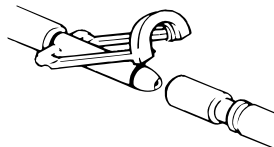

Figure 1-21: Clik-Tite open
- a. If you have Colder style connector hoses, attach the service tool adapter hose (8001-999-016). Make sure the **Clik-Tite** connectors are open (Figure 1-21 on page 1-35).
- b. If you have **Clik-Tite** hoses, make sure that the connectors and clamps are open (Figure 1-21 on page 1-35).